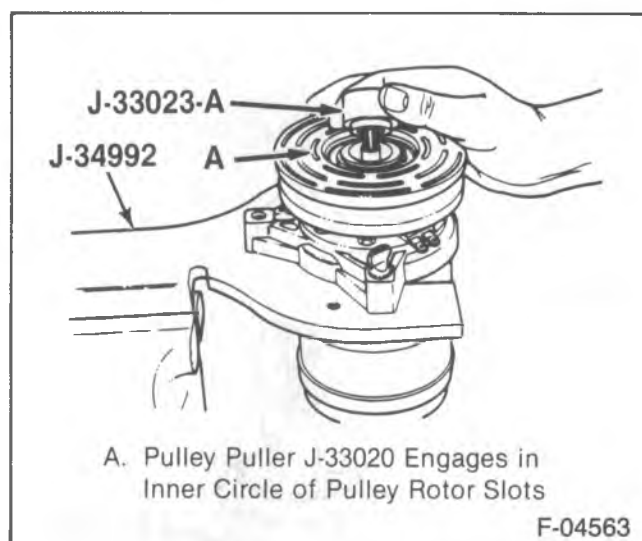
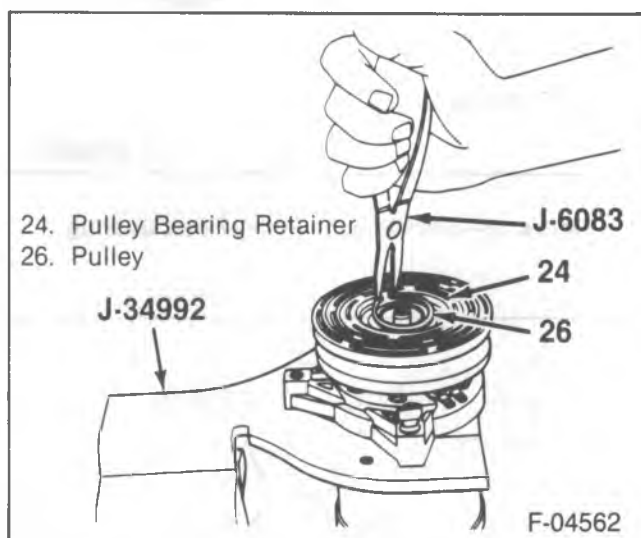

Figure 9—Installing the Pulley Rotor and Bearing Puller Guide
Figure 8—Removing the Pulley Rotor and Bearing Assembly Retaining Ring
1. Clutch plate and hub assembly (22).
2. Pulley bearing retainer (24) using J 6083 (figure 8).
3. Pulley (26).
- Install J 33023-A to the front head (figure 9).
- Tighten the center screw in J 8433 to force the pulley and bearing assembly onto the compressor front head (33).
4. Pulley bearing retainer (24) using J 6083 (figure 8).
5. Clutch plate and hub assembly (22).